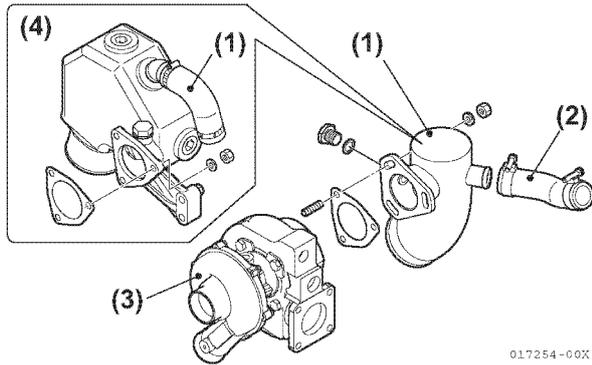

Figure 5-17
17. Remove the mixing elbow from the exhaust manifold for 3JH4E and 4JH4AE (**Figure 5-16**) or from the turbocharger for 4JH4-TE and 4JH4-HTE (**Figure 5-17**).